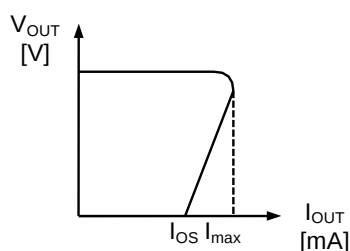

Figure 19
The S-87x Series has a built-in short-circuit protection circuit to protect the element from break caused by a large current in case of a short circuit. The output short current is internally limited to approx. 70 mA. Short-circuit protection circuit has three kinds characteristics according to input voltage (V_{IN}) as shown in **Figure 19 to 21**.
- (1) At the time of voltage detection, the voltage regulator is shutdown and load current is cut. Therefore, VIN pin voltage increases by $\Delta V_{IN} = I_{IN} \times R_{IN}$, where the current flowing into R_{IN} is set to I_{IN}. Hence, if ΔV_{IN} exceeds hysteresis width (V_{HYS}), oscillation starts immediately after detection and continues. It is necessary to set ΔV_{IN} less than V_{HYS}.
- (2) At the time of voltage release, the voltage regulator is powered on and load current flows. Therefore, if ΔV_{IN} exceeds hysteresis width (V_{HYS}), oscillation starts immediately after release and continues. It is necessary to set ΔV_{IN} less than V_{HYS}. Also at the time of voltage release, the rush current to charge output capacitor (C_{OUT}) flows. Hence, oscillation momentarily starts until the output of regulator (V_{OUT}) rises high enough even though ΔV_{IN} is set less than V_{HYS}. But Short-circuit protection circuit controls the rush current less than I_{MAX} on Figure 19 to 21. If this momentary oscillation is a problem in your applicaion, setting R_{IN} less than V_{HYS}/I_{MAX} prevents oscillation.